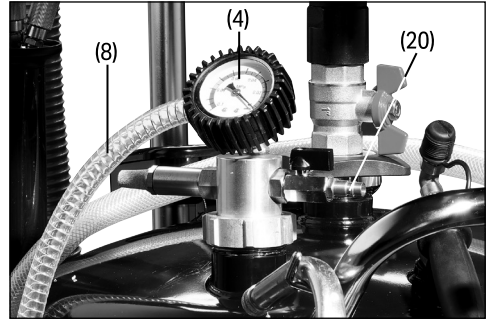

Fig. 2
1. Connect the air supply to the suction air inlet connector (20) and open the air valve (refer to section 7.2 and fig.2).
**⚠ WARNING! Check that all the other valves are closed especially the oil pan drainage valve (2) and the tank oil drainage valve (12).**
2. Check the air pressure gauge (4) and allow the pressure to drop down to -0.5bars. Then close the air inlet valve and shut off the compressed air. The oil drainer is depressurised and ready to use.
4. Use the vacuum attachment (14) to clean up any oil spillages.